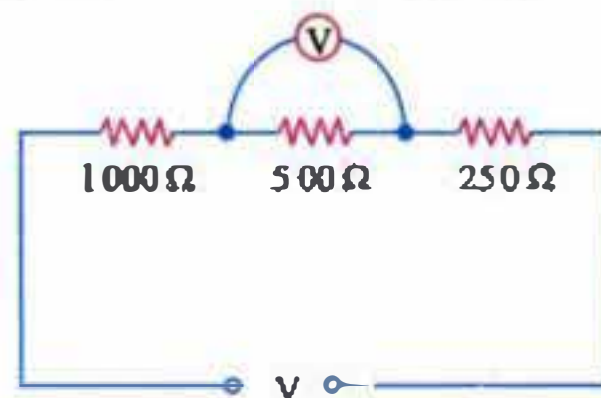

Fig. 2.43
4. If, in Fig. 2.43, voltmeter V measures 20 V, then value of circuit voltage V is about volt.